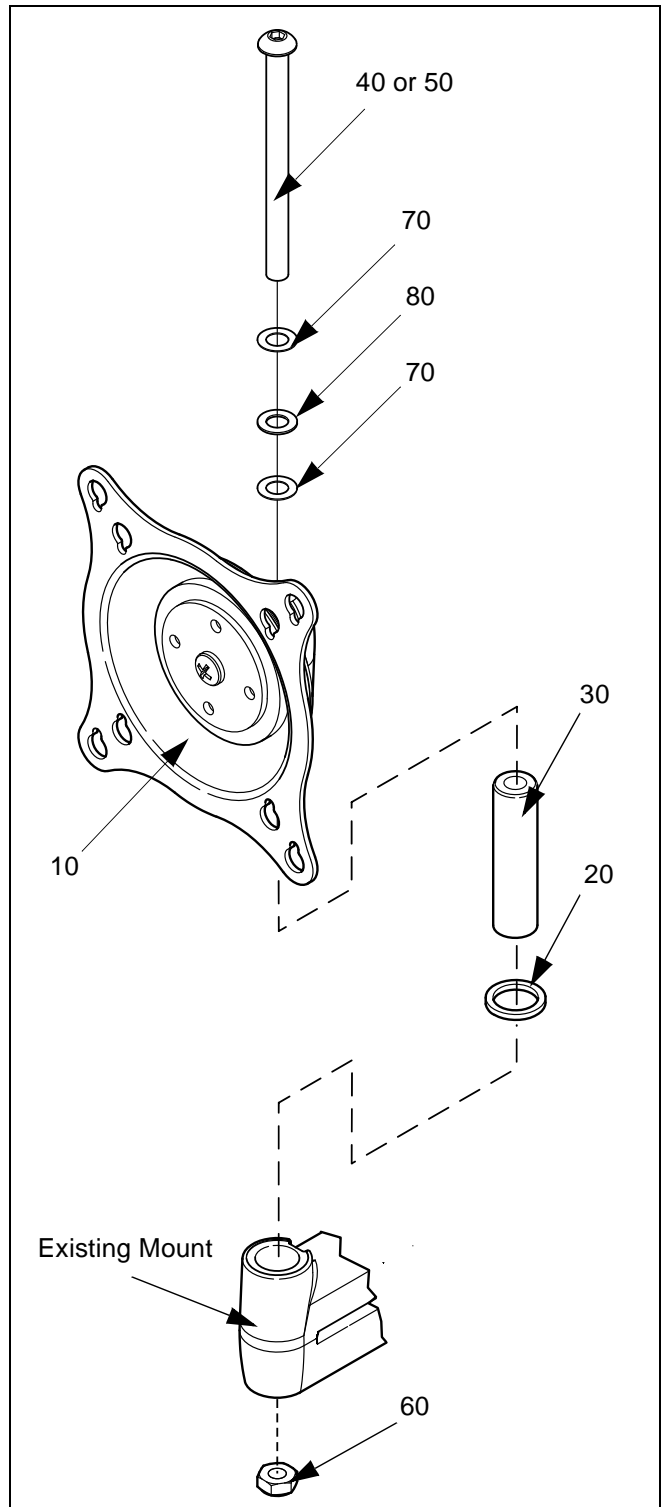
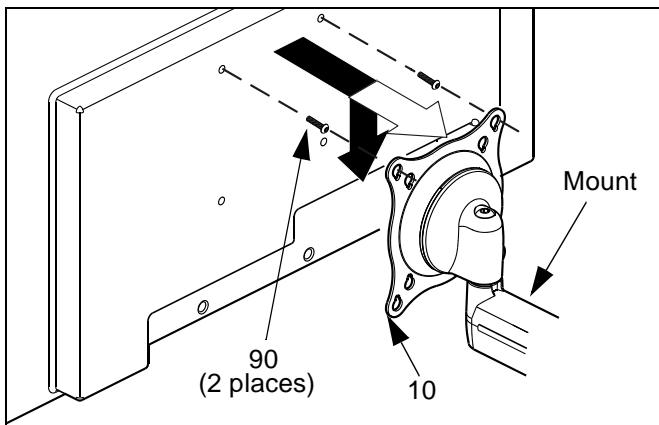

Figure 3: Centris Head Installation
Figure 4: Single Display - Flush Mount
1. Place pivot pin (30) into mount end. (see Figure 4)
2. Place nylon washer (20) on top of mount end.
3. Assemble two spacers (70) and one UHMW washer to BHCS (40 or 50).
4. Install threaded end of BHCS (40 or 50) through Centris Head (10), pivot pin (30) Nylon Washer (20) and through mount end.
5. Slide Nylock nut (60) up into bottom of mount end.
6. Hold Nylock nut (60) in position and thread Nylock nut (60) onto bottom of BHCS (40 or 50). (See Figure 3)
- Using Phillips screwdriver, carefully install two screws (90) into the *upper* mounting holes on the display. Thread screws completely into display, then back out 3 complete turns.
- Pick up and align display so that screws (90) (installed on the back of the display in the previous step) fit into the mounting holes on the Centris bracket (10); rotate the bracket as required (See Figure 4). Lower the display firmly into place.